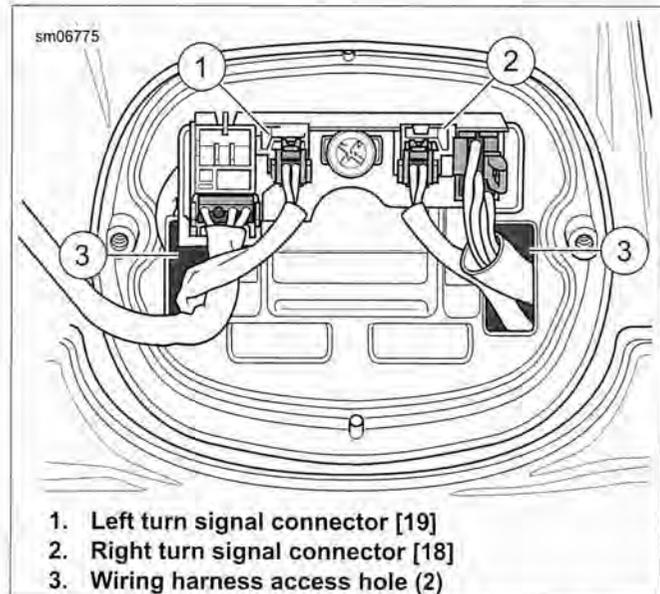

Figure 6-79. Turn Signal Connectors: All Models Except XL 883N, XL 1200N/X/C/CP
4. See Figure 6-79. Remove left and right turn signal connectors (1, 2). Pull turn signal wiring harnesses through harness access holes (3) in tail lamp base.